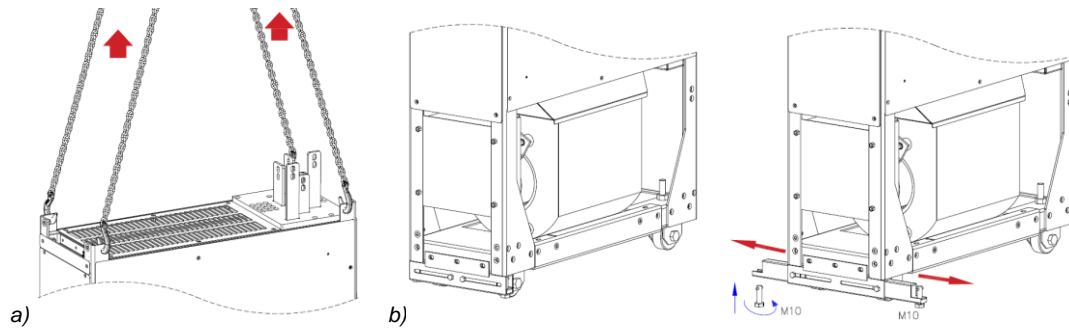

Fig. 1-2: SDx.2 – Eyelet for lifting (a) and retractable and adjustable feet (b) for overturning avoidance
- Moving SECOM DRIVE frame type SDx.2: lift the drive using eyelets or eyebolts as shown in Fig. 1-2-a.
- To prevent the drive from toppling over when in its fixed location, always use the adjustable and retractable feet located on the lower side of the frame (Fig. 1-2-b).